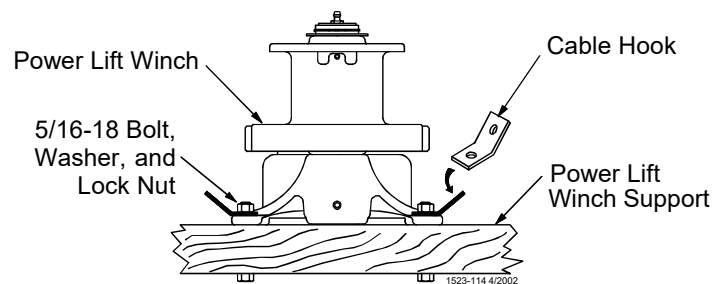

Figure 6. Assembling the Power Winch to the Rafter
2. Install a Cable Hook, supplied in Hardware Package, between the mounting bolt and Power Winch frame, as shown in **Figure 6**.